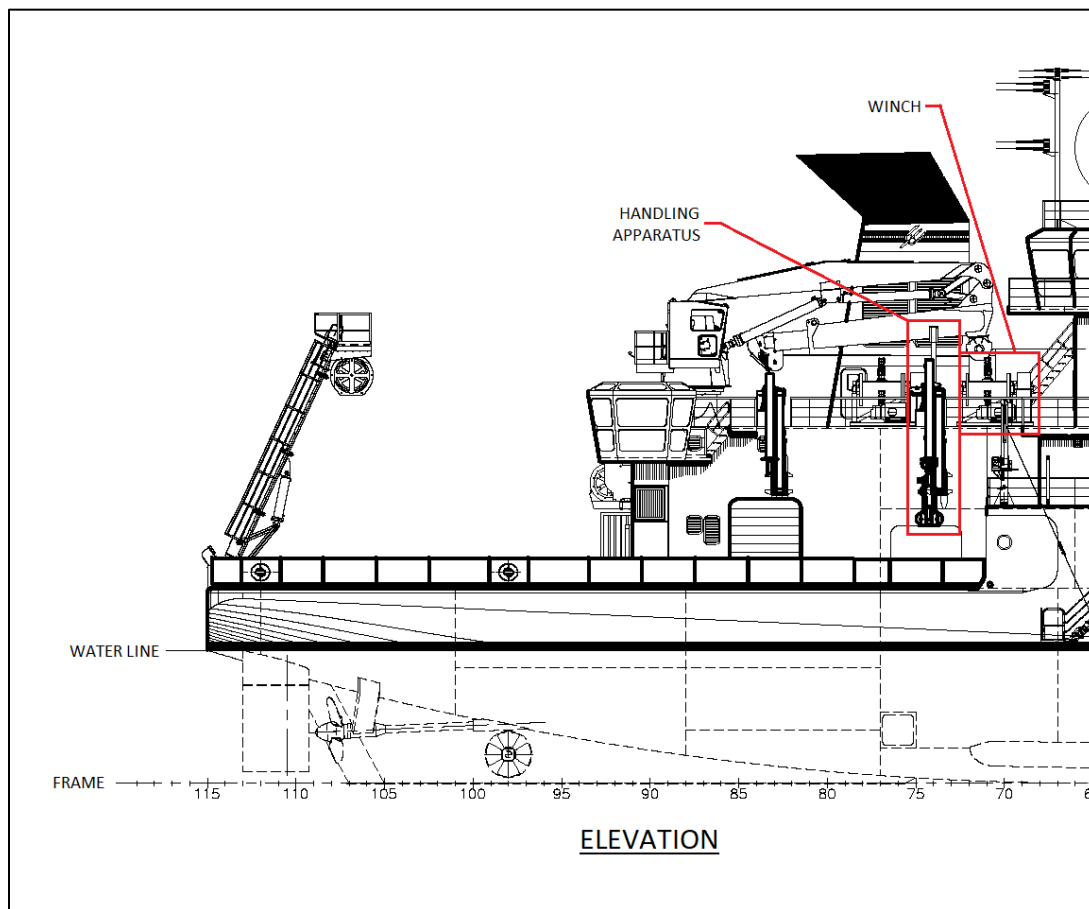
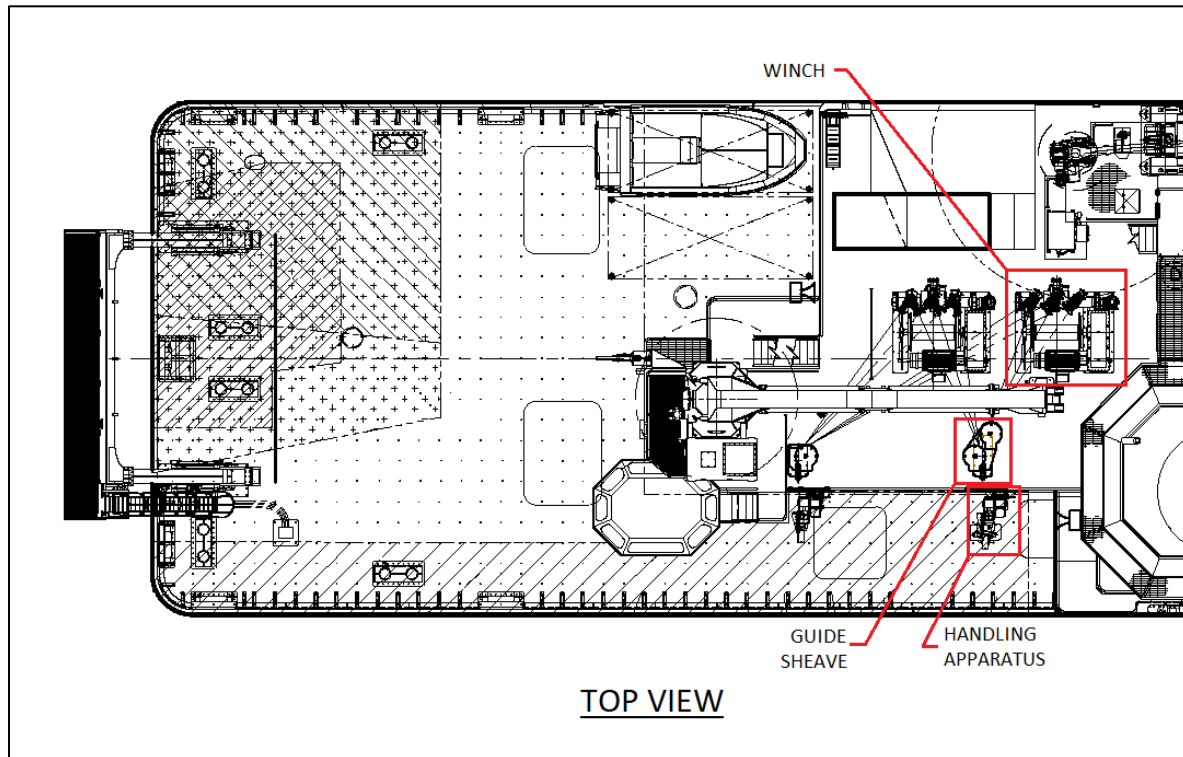

Figure 1: The locations of major components5.
Figure 2: The locations of major components6.
Their locations on the vessel are indicated below in figure 1, and on the net page in figure 2.
15. Ensure the jib is completely retracted and within the limits shown in Figure 1 (following page). Ensure it remains that way throughout the test.
Figure 1: Limitations on the rated load of the CTD-11V (figure 4-2 in its technical manual). Note it's rated load of 11,100 lb. assumes the jib is fully retracted and no further than 224" from its base. Extending the jib or orienting it beyond these limits during this test may cause damage to the system.